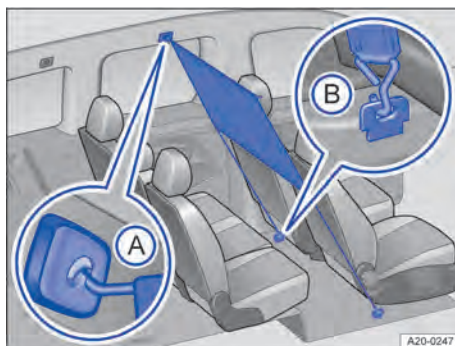
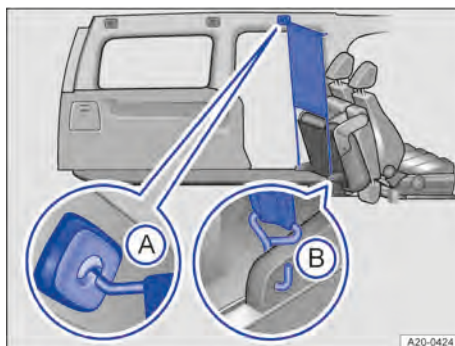

Fig. 133 Behind the first row of seats: Fitted net partition.
Fig. 134 Behind the folded down second seat row: Fitted net partition.
2. Hook the net partition into the *front left* holder → Fig. 133 A or → Fig. 134 A in the roof. Ensure that the transverse rod is pulled up over the upper position so that it latches securely in the slots.
- Hook the net partition into the anchor point → Fig. 133 (B) or → Fig. 134 (B).